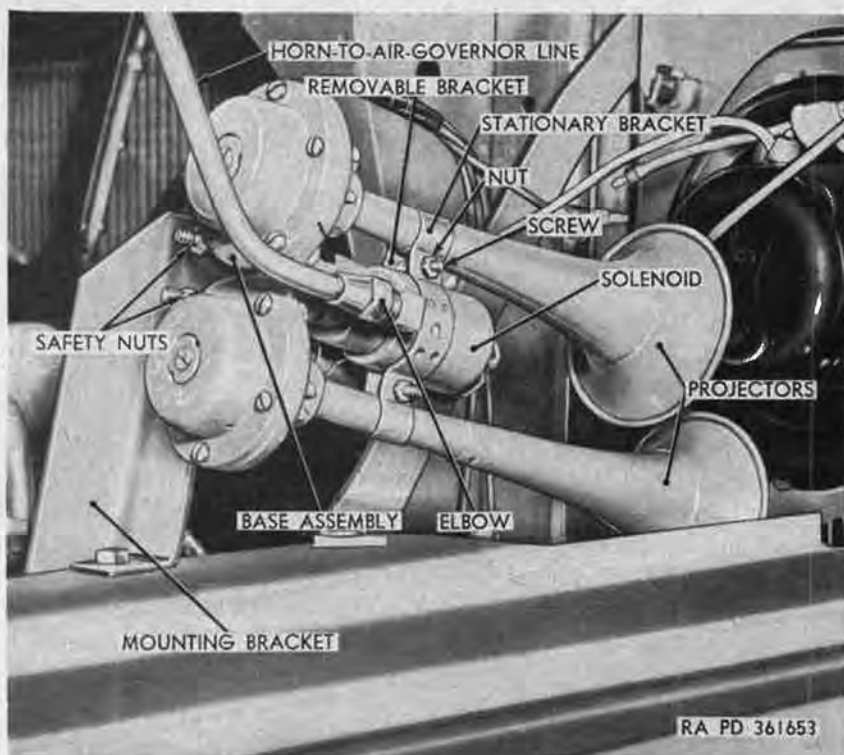

Figure 191. Horn installed on right front fender (solenoid with mounting brackets).
h. Horn. The waterproof horn assembly (fig. 191), mounted on a bracket bolted to the right front fender, is an electrically-controlled air-operated unit. Depressing the horn button (W, fig. 65) completes the circuit to the solenoid mounted between the horn projectors. The solenoid opens an air valve which permits compressed air to pass through the horn body. The compressed air causes a pair of diaphragms inside the dual horn body to vibrate rapidly, thereby "sounding" the horn.